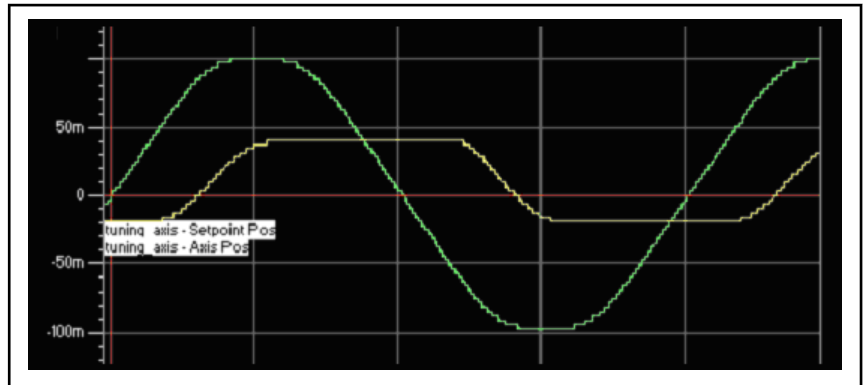

Fig. 4-56: *Tuning the proportional gain of the position loop*
7. At the time plot, disable the position error plot and click on the "Ruler" button of the set-point position. Click the "Start" button in the NYCeScope and the "Start Motion" button in the NYCeTuner. fig. 4-56 "Tuning the proportional gain of the position loop" on page 183 shows an example of the axis position and setpoint position plots of the motor.